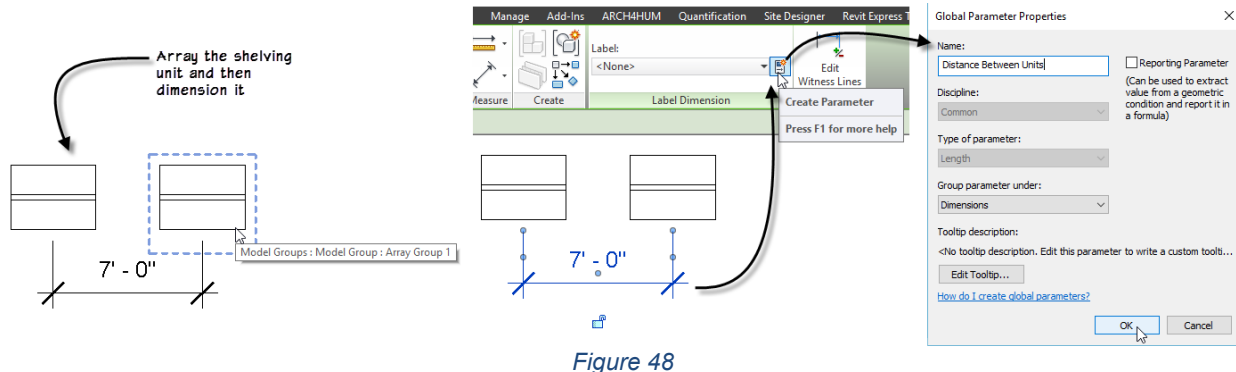

Figure 48
7. Name the parameter: **Distance Between Units** and then click OK (see Figure 48).